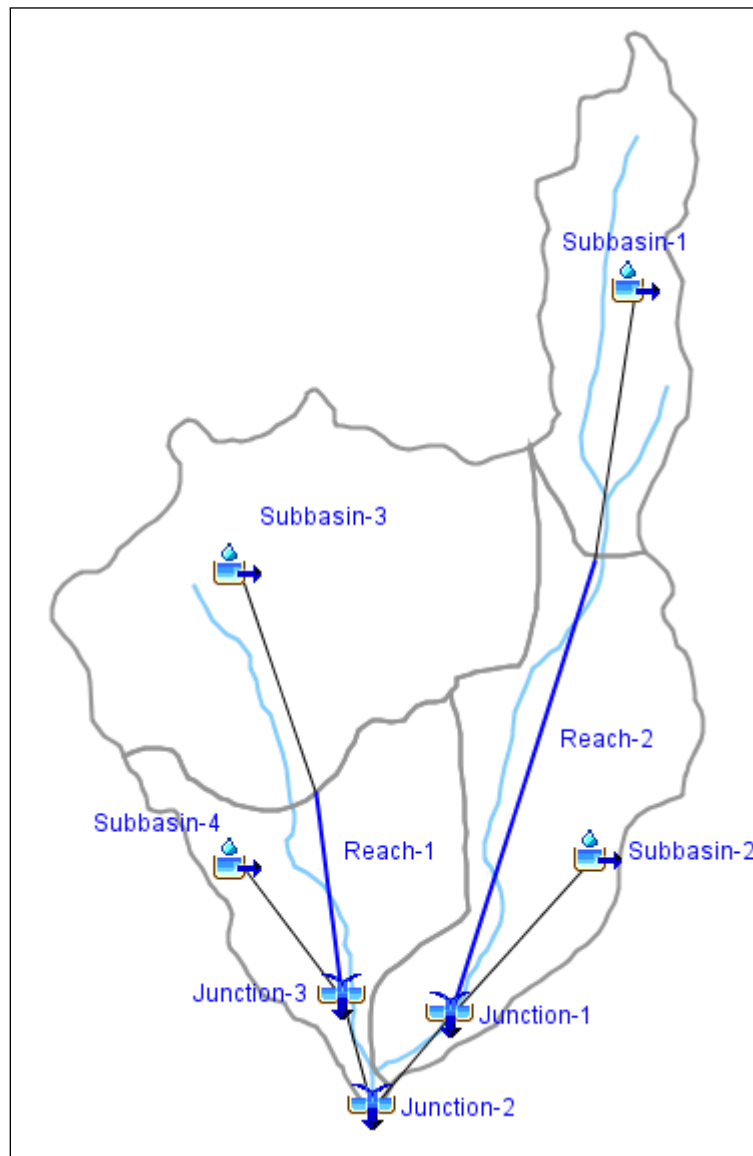

Figure 30. Subbasin, reach, and junction elements in their correct positions.
Use the following steps and Figure 30 to create the element network:
5. Connect the other element icons using the same procedure used to connect Subbasin-2 downstream to Junction-1. Move the hydrologic elements as necessary to complete the network shown in Figure 30. Move an element by placing the mouse over the icon in the basin model map. Press and hold the left mouse button and move the mouse. Release the left mouse button to place the icon. The upper and lower ends of a reach element icon can be moved independently.